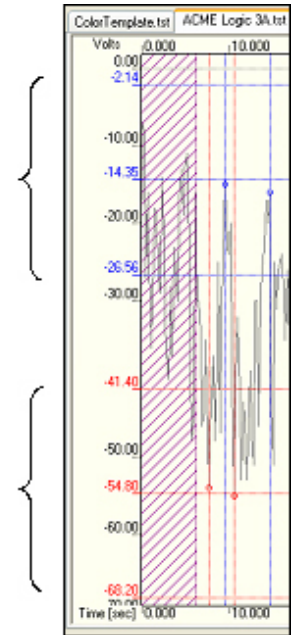

Figure 35: 3-Sigma Ranges are calculated and plotted for Minimum & Maximum Peak Sets
8. The 3-Sigma Analysis is calculated for the Maximum and Minimum data sets and displayed as follows (Figure 35):